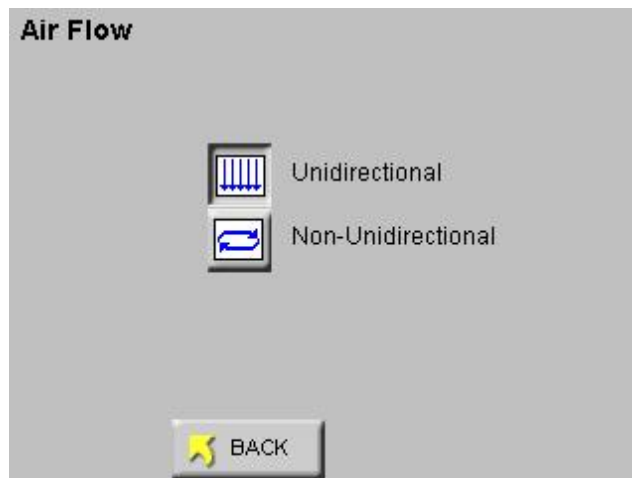

Figure 6-93 Reports Air Flow Screen
- Press the FLOW button to display screen shown in Figure 6-93.